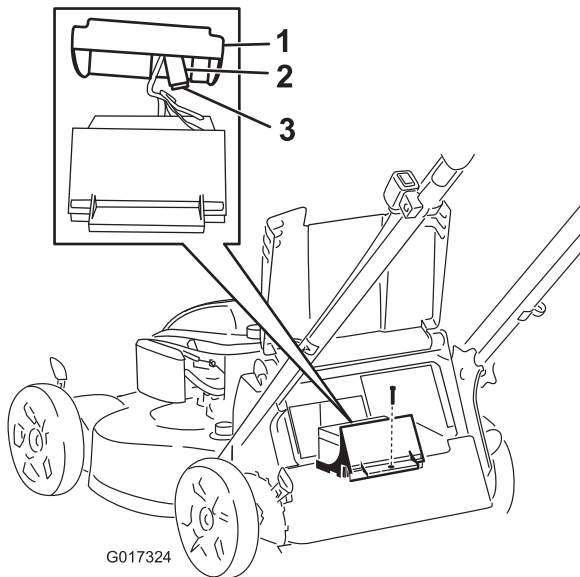

Figure 27
- Remove the screw that secures the battery compartment, pull out the battery, and locate the fuse (Figure 27).
- Replace the fuse in the fuse holder (Figure 27).